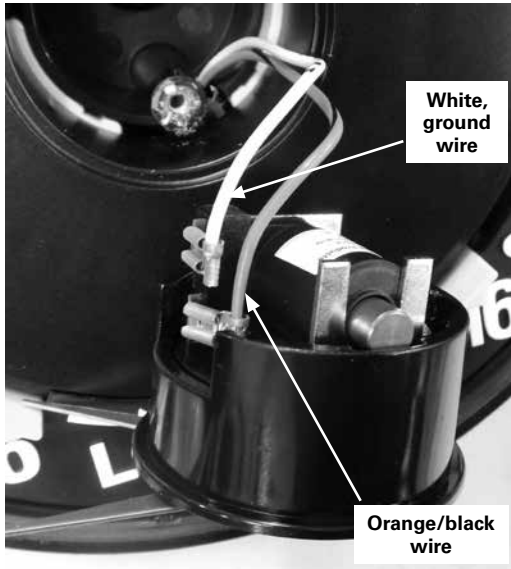

Figure 6. Solenoid terminal connections
5. Note the two wires that are connected to the solenoid with push-on terminals: an orange/black wire is connected to the inside terminal of the solenoid and a white wire is connected to the outside terminal. See Figure 6.